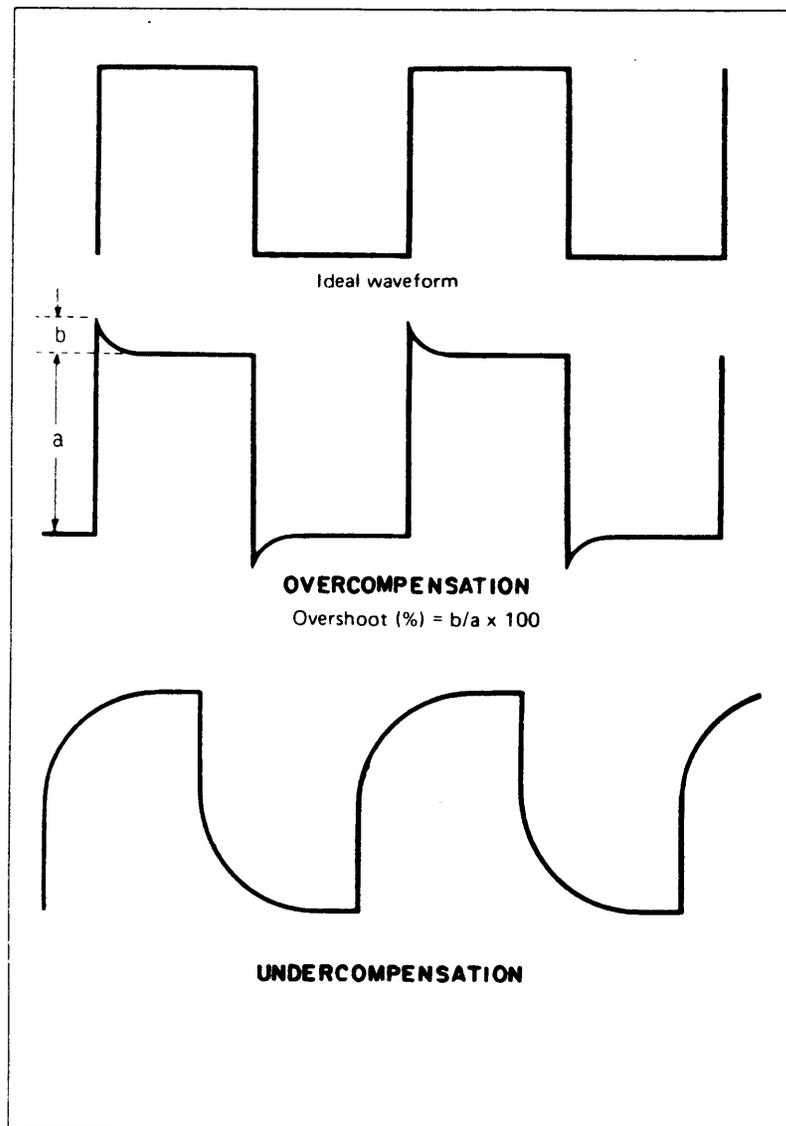

Fig. 9. Frequency Compensation Adjustments.
7. Adjust trimmer capacitor TC103 for the most ideal square wave waveshape, as shown in Fig. 9.